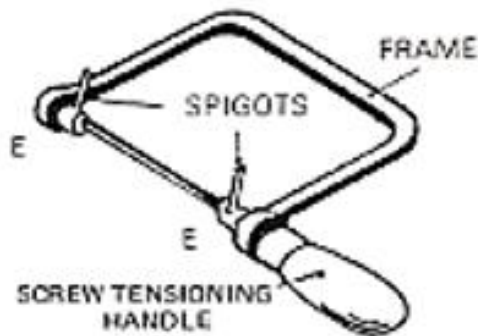

Fig. 2.23: Coping saw
**A smaller, lighter saw used for the same purpose. However, it can cut circles with a smaller radii and works better in thinner materials (fig. 2.23).**